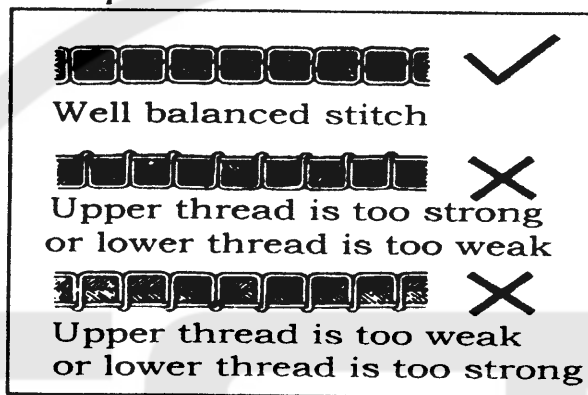

Fig.5
(1) Removing: Open the shuttle race cap and the bobbin holder, then take out the bobbin.
(2) Installation: Put the bobbin in the rotary hook case, Permit about 5 cm of bobbin thread to hand down freely. Install the bobbin in the bobbin case so that the thread wound direction is clockwise. Then close the rotary hook and the shuttle race cap.
9、 ADJUSTING THE THREAD TENSION (Fig.5)